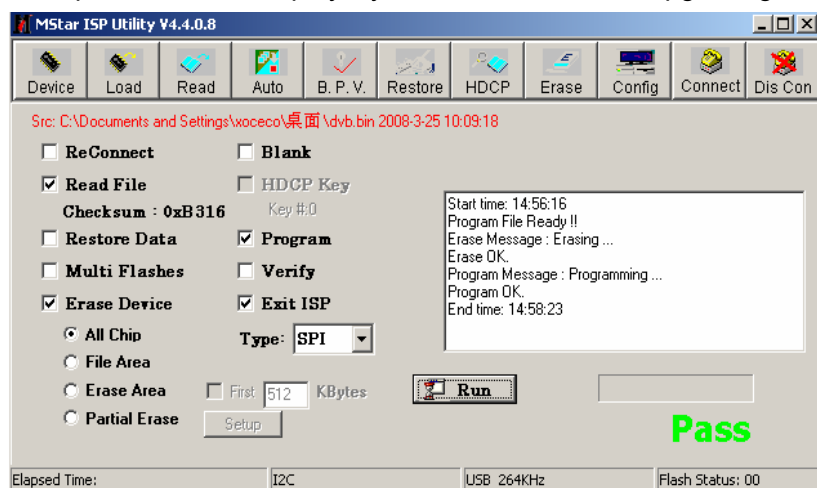

Fig. 6 Prompt “Pass” displayed by “Run” when upgrading succeeds
- 7) Prompt “Pass” will display by button “Run” when upgrading succeeds; please refer to Fig. 6;